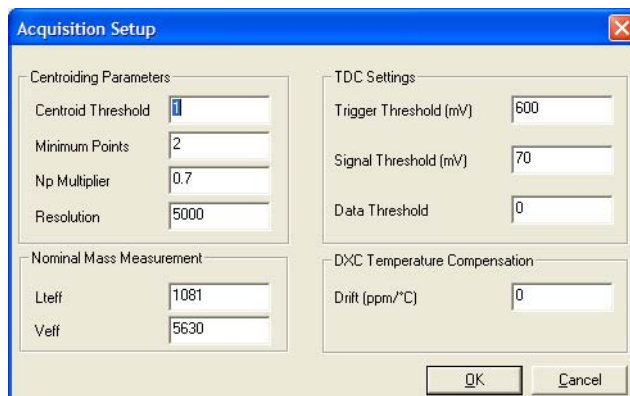

Figure 3-1 Acquisition Setup Dialog Box
1. From the Tune window select Settings > Acquisition Setup to view the current Lteff setting in the Acquisition Setup dialog box (Figure 3-1). The default setting is 1081.